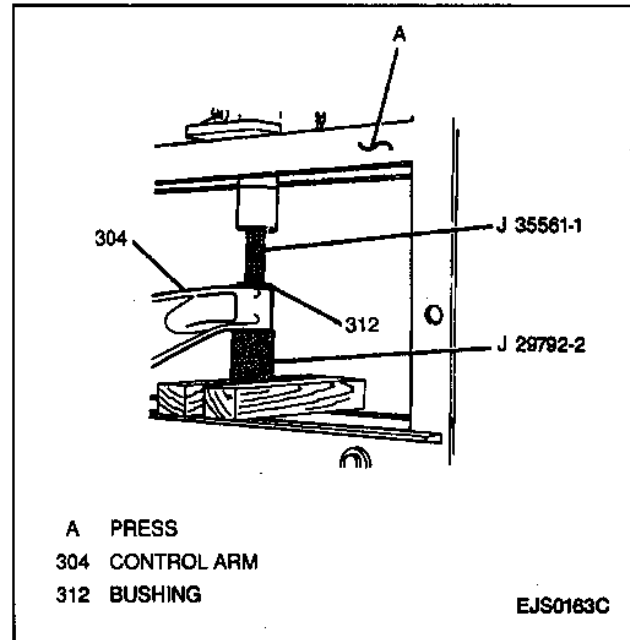

Figure 16—Installing Control Arm Bushing—Short Branch
1. Using a J 35561, a J 29792-2 and a press, install a new bushing into the short branch of the control arm (Figure 16).